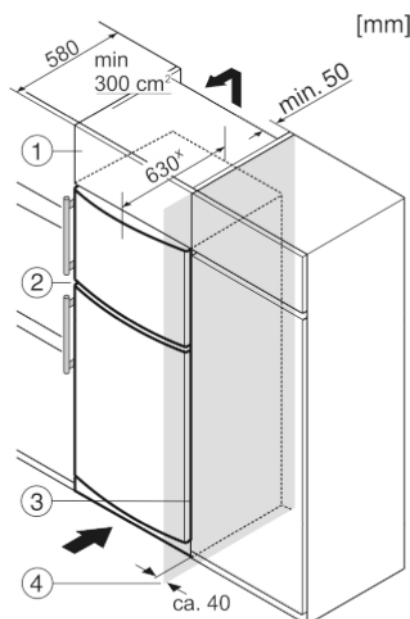

Fig. 7
- (1) Stack cabinet
(2) Appliance
(3) Kitchen cabinet
(4) Wall
The appliance can be built into kitchen units. A top cupboard Fig. 7 (2) can be added above the appliance in order to bring the appliance Fig. 7 (1) up to the height of the fitted kitchen units.
When installing with kitchen units (max. depth 580 mm), the appliance can be positioned directly next to the kitchen cabinet Fig. 7 (3). The appliance will project by 34 mm* at the sides and 50 mm* in the centre of the appliance in relation to the kitchen cabinet front.
If the appliance is installed with the hinges next to a wall Fig. 7 (4), the distance between appliance and wall has to be at least 40 mm. This corresponds to the projection of the handle when the door is open.